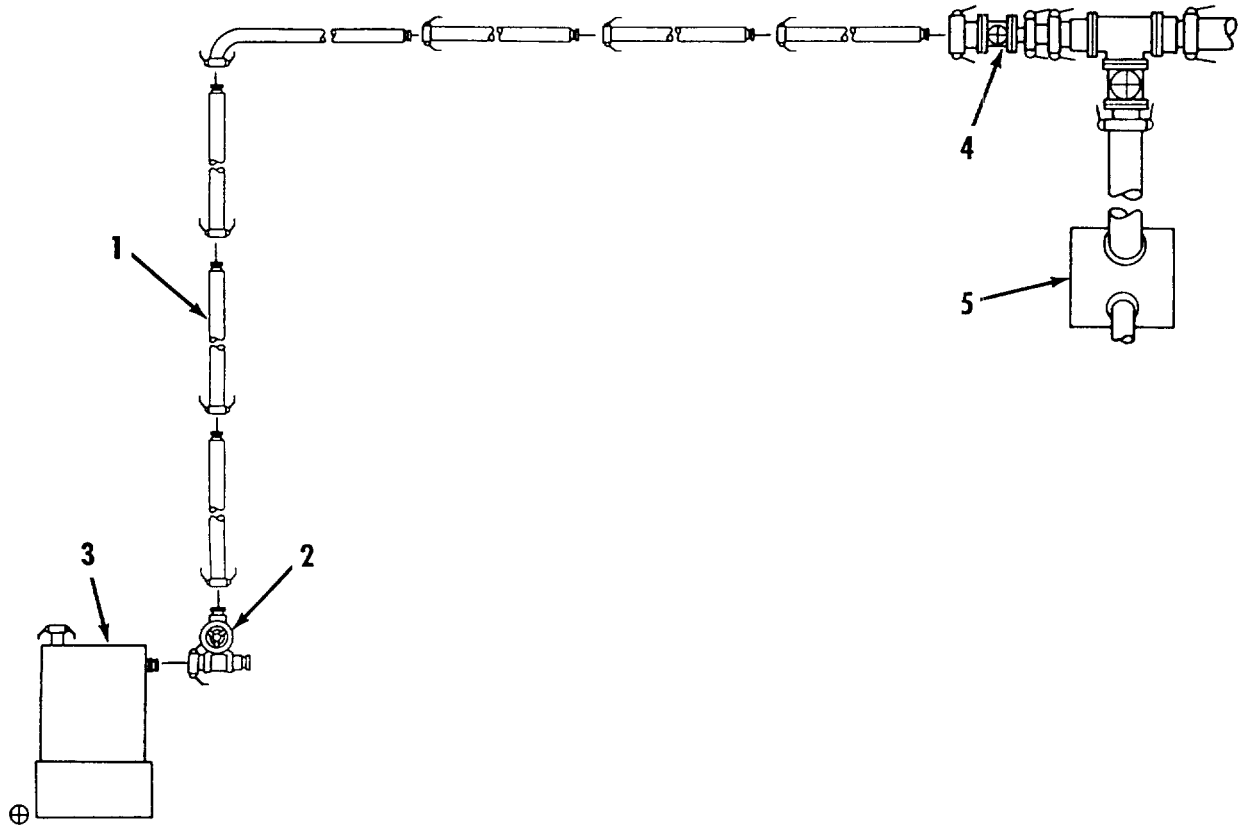

Figure 2-22. Fuel System - Fuel Tank Bypass Hose.
- n. Fuel System Fuel Tank Bypass Hose. Refer to figure 2-22.